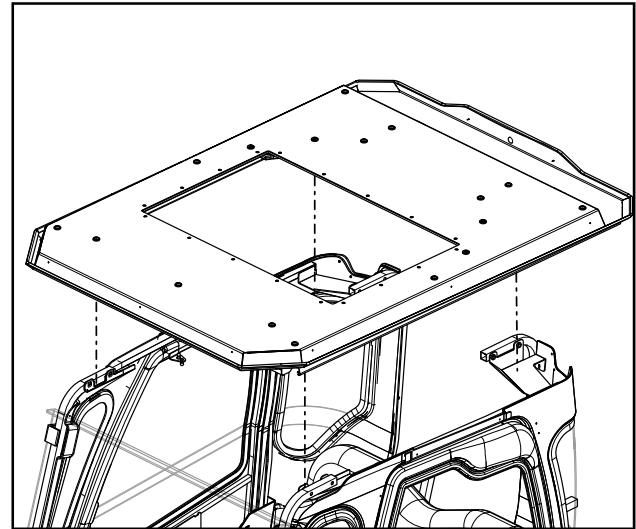

Fig. 2.1 (Install New Roof)
- 2.1 With assistance, lower the roof assembly onto the top of the installed cab. Figure 2.1.